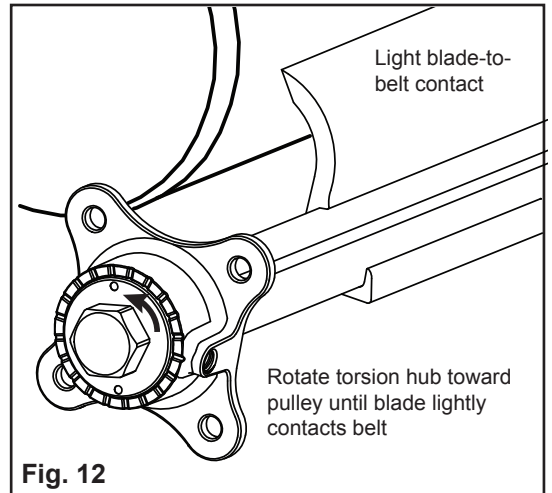

Fig. 12
19. Tension Cleaning Blade to conveyor belt by rotating the Torsion Hub towards the head pulley until blade is making contact with belt and light tension is felt in Torsion Hub (Fig. 12).